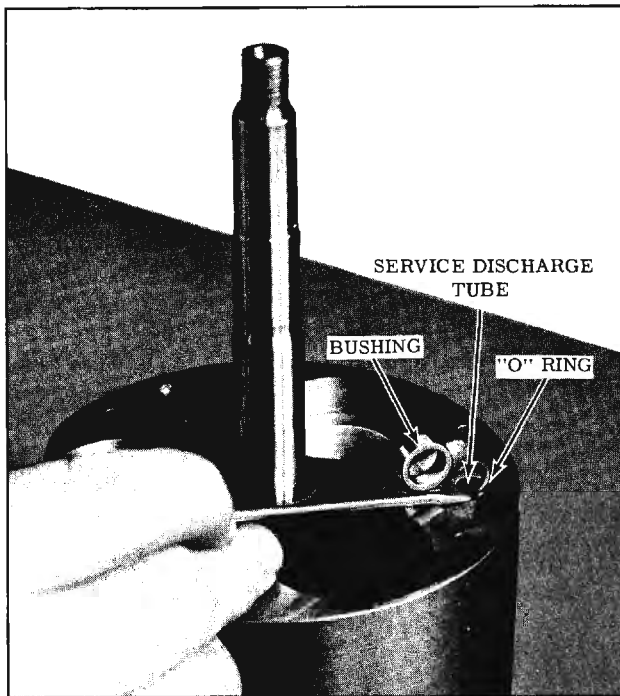

Fig. 15-81 Installing "O" Ring and Bushing
25. Install "O" ring and bushing over discharge tube. (Fig. 15-81)